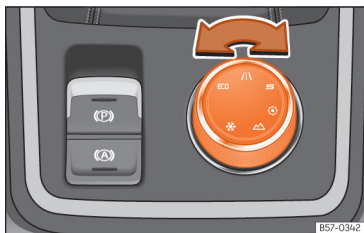

Fig. 102 Centre console: Driving Experience button.
• Turn the Driving Experience Button to select the desired drive profile »» **Fig. 102**.